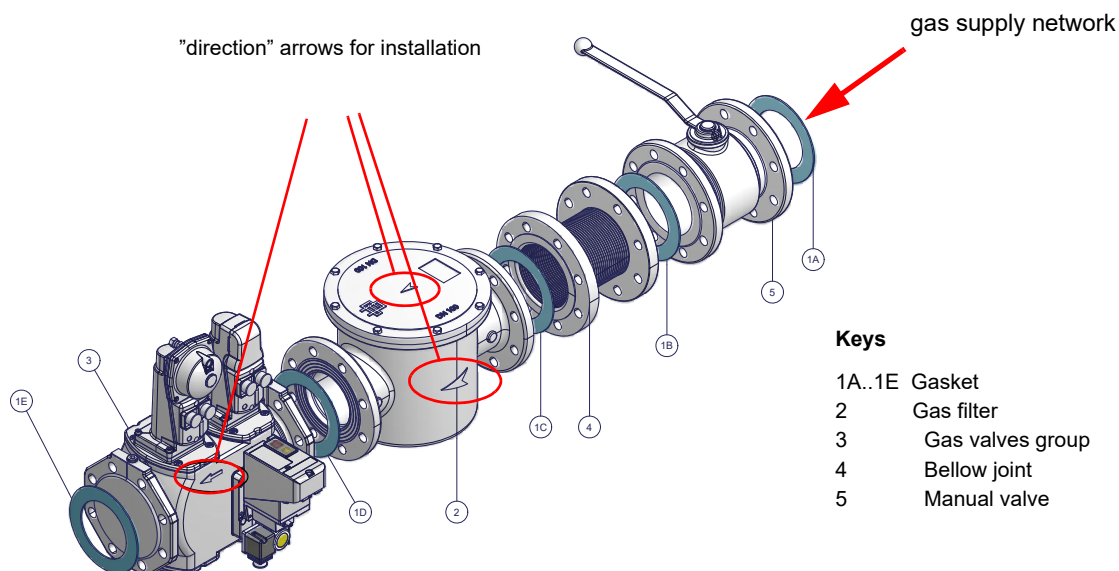

Fig. 2 - Example of gas train
1-b) in case of flanged joints: place a gasket (no. 1A..1E - Fig. 2) between the elements
**ATTENTION:** once the gas train is mounted according to the diagram (Fig. 2), the gas proving test must be performed, according to the procedure set by the laws in force.